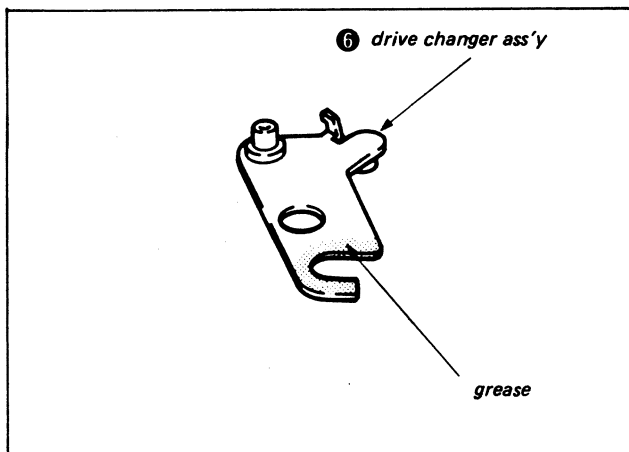

Fig. 3-30.
- 1) Place a half drop of oil on the L-SW assembly ⑨ shaft (planetary gear).
- 2) Mount L-SW assembly ⑨ and tighten with the two screws ⑧.
- 3) Connect connector ⑦.
- 4) Operate the mode selector and check that the L-SW assembly ⑨ rotates.
- 5) Place a half drop of oil on shaft ⑩.
- 6) Grease the drive change assembly ⑥ as shown in Fig. 3-30.